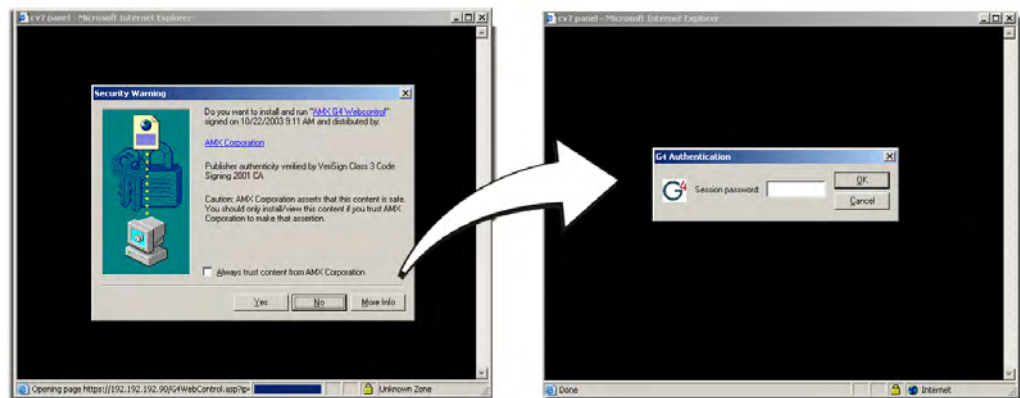

FIG. 82 WebControl VNC installation and Password entry screens
7. Click on the G4 panel name link associated with the target panel. A secondary web browser window appears on the screen (FIG. 82).
11. Enter the WebControl session password into the Session password field (FIG. 82). *This password was previously entered into the Web Control Password field within the G4 Web Control page on the panel.*